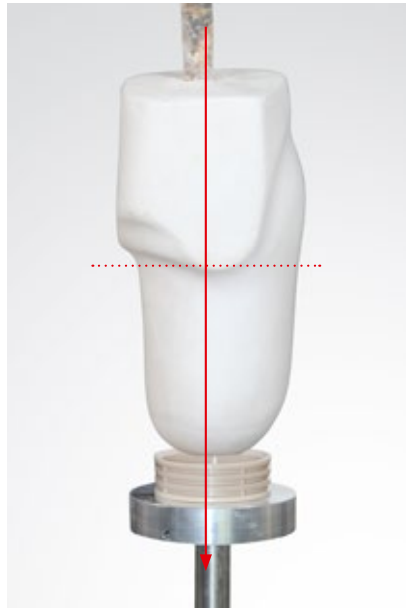

Fig 30
(C) Long stumps (Fig 30 and 31)